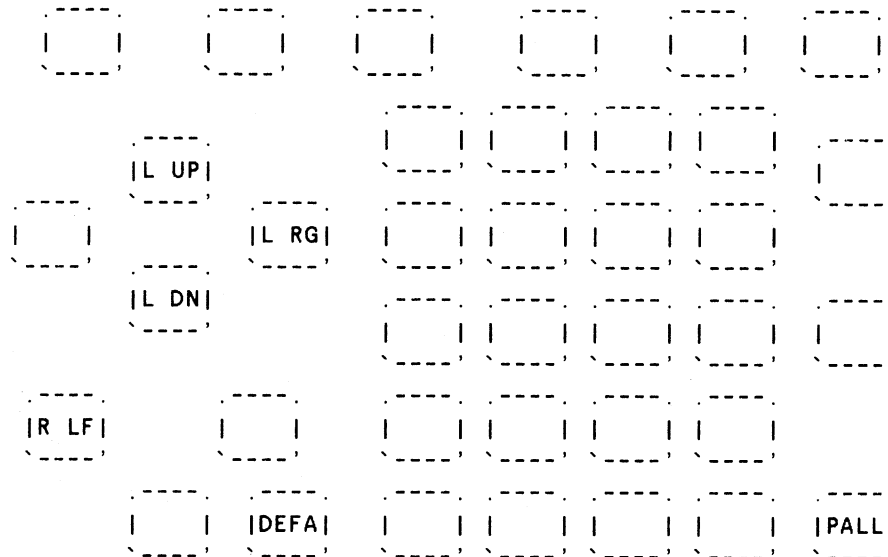

Figure 4-2. Keyboard Test Pattern Part 2
- b. When all the keys have been pressed, the display will change to look like figure 4-2. While holding down the blue key, press each of the indicated keys.